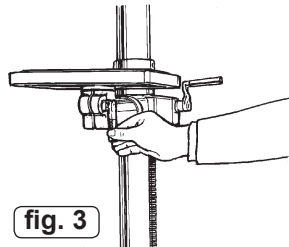

fig. 3
- 5.1.6. Install the table and table pivoted clamp bolt (fig.3).